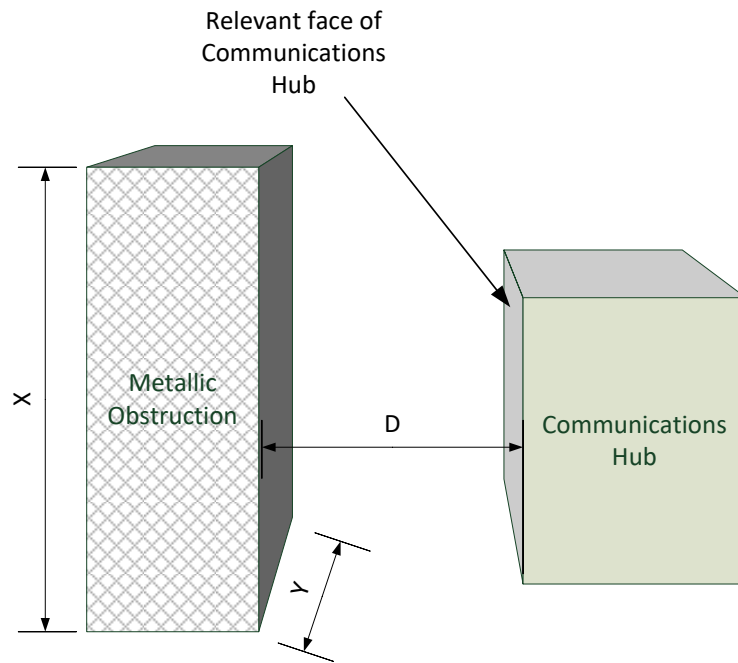

Figure 1: Metallic Obstruction
- 4.1.2 With the measurements as illustrated in Figure 1, Significant Metallic Obstruction means: